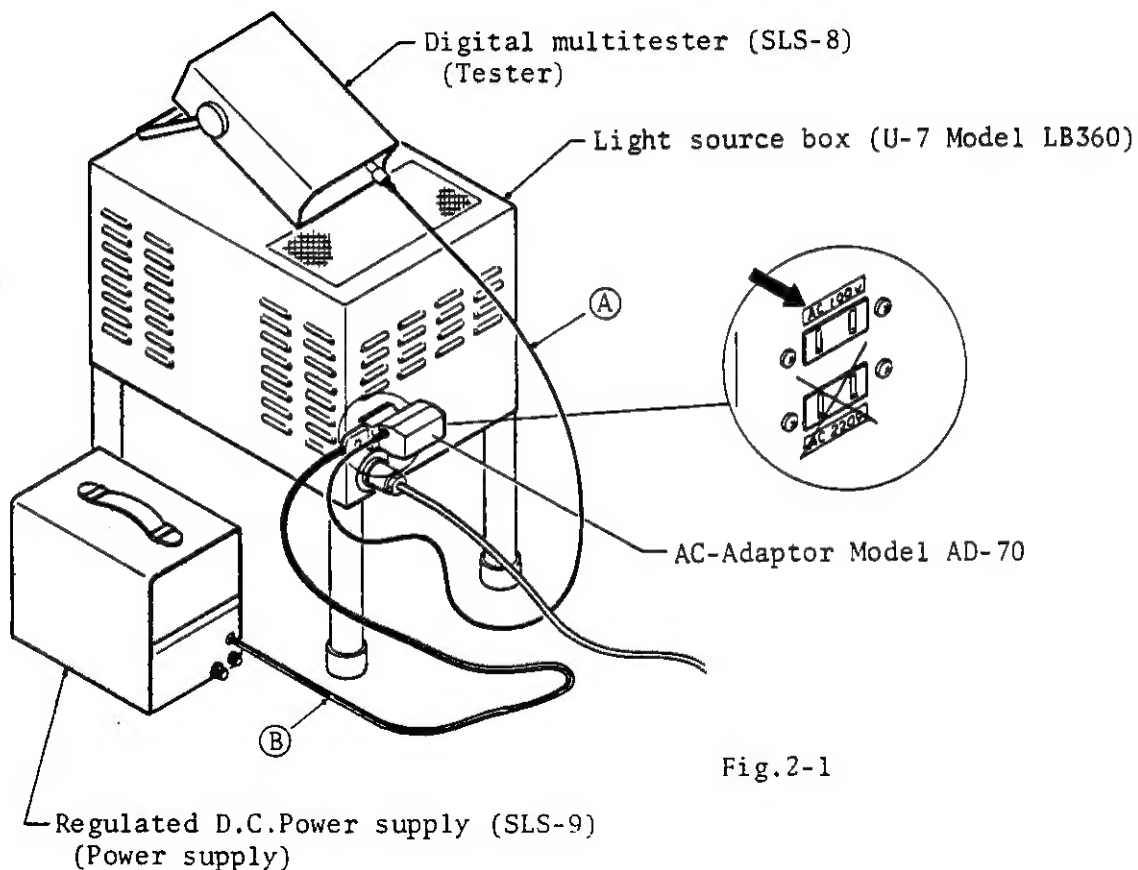

Fig. 2-1
Connect the electric power cords ① and ② to the wall socket for AC 100V on back of the U-7 Light source box as shown in the Fig. 2-1.